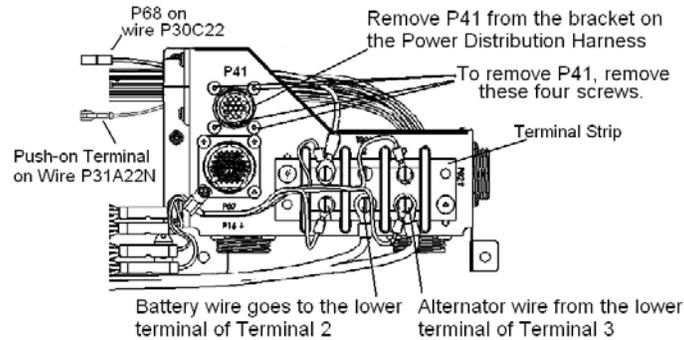

Figure 53-10 Starboard Side of the Power Distribution Harness Showing the Location of the Battery and Alternator Wires and Connector P41
6. Remove circuit breaker (CB) panel from airplane (see Chapter 24 – Electrical Power).
8. Start on the starboard side of the instrument panel console. Remove the battery wire from the lower terminal of Terminal 2 on the terminal strip. See Figure 53-10 for the location of the battery wire.